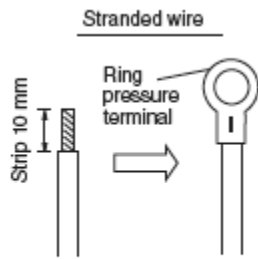
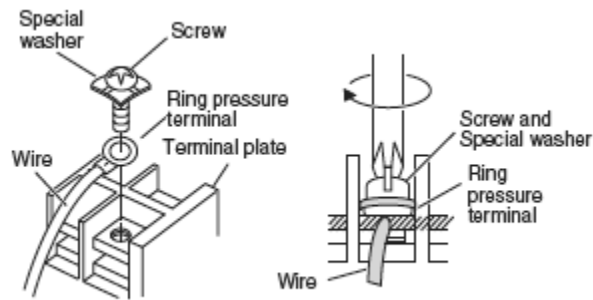

Fig.9-7
Fig.9-8
- (1) Cut the wire end with cutting pliers, then strip the insulation to expose the stranded wiring about 10mm and tightly twist the wire ends. (Fig.9-7)
- (2) Using a Phillips head screwdriver, remove the terminal screw(s) on the terminal plate.
- (3) Using a ring connector fastener or pliers, securely clamp each stripped wire end with a ring pressure terminal.
- (4) Place the ring pressure terminal, and replace and tighten the removed terminal screw using a screwdriver.(Fig.9-8)